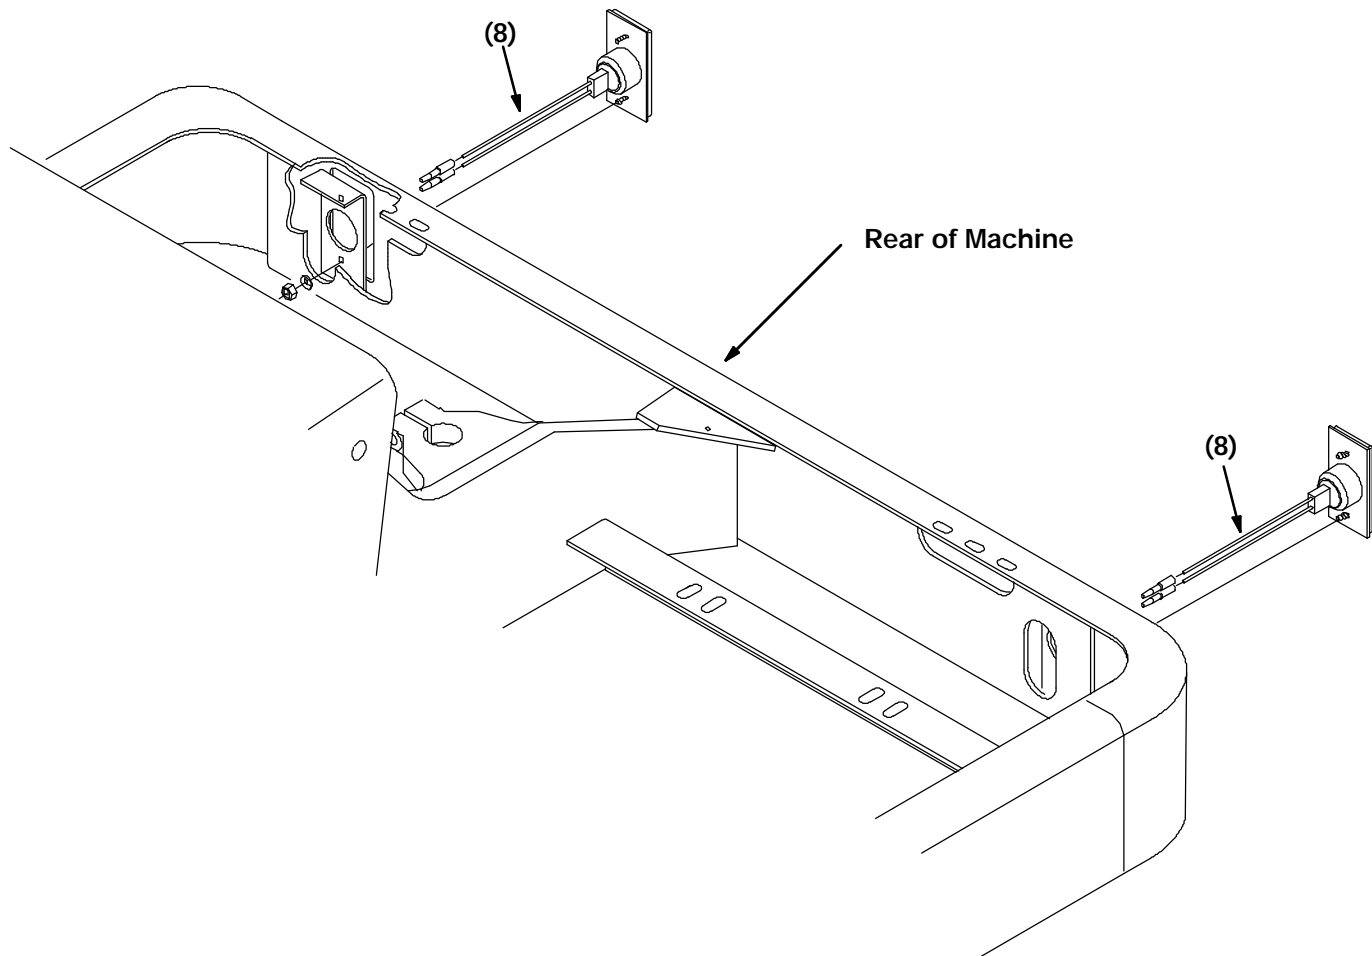

FIG. 3 - Tail Light Assembly
(Refer to FIG. 3)
2. Locate the wire harness inside each tail light opening. (Refer to FIG. 3)
3. Cut the wire ties that bind each wire harness. (Refer to FIG. 3)
4. Connect and install tail lights with hardware provided in tail light assembly (8). (Refer to FIG. 3)